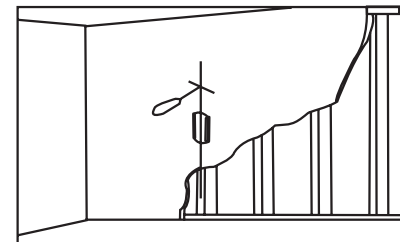

Fig 2b
Using a awl or nail to make where the nails are located, as shown as fig.2b. Distance between two nails for fixing wall mount must not less than 12". Pre-drill these holes with a 5mm drill bit to a least 40mm in deep hole. Please make sure these holes are level and located at center. Use wall mount as a template to mark the location of other three holes and drill the same holes. Fix the wall mount to the wall with 4 long bolts(K) and washers(L).